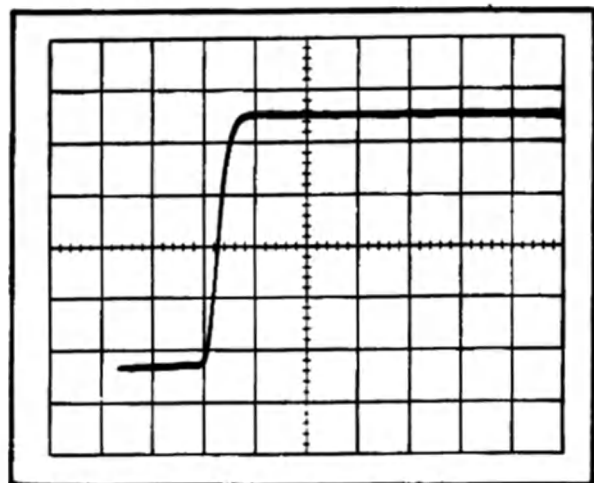

Fig. 5-7. Typical CRT display showing correct high-frequency compensation.
d. CHECK—CRT display for ± 0.15 division or less overshoot, rounding, ringing or tilt (see Fig. 5-7).
g. CHECK—CRT display for ± 0.15 division or less overshoot, rounding, ringing or tilt (see Fig. 5-7).